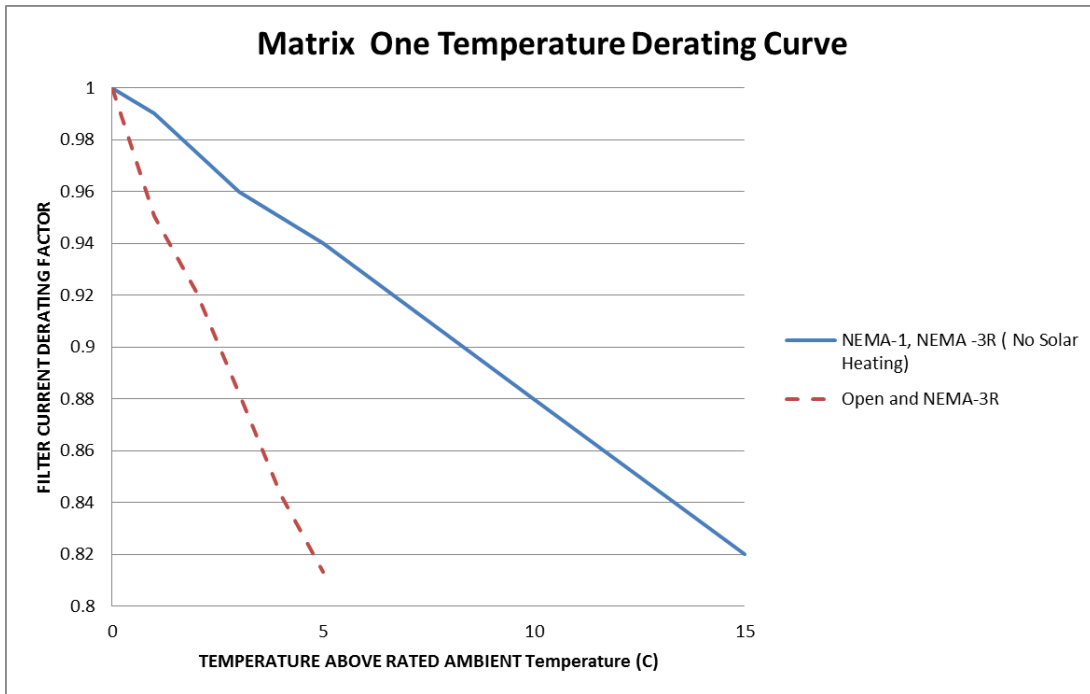

Figure 3-5: Temperature Derating
- Temperature:** See Table 3-1: Performance Specifications (p5) for operating temperature information and Figure 3-5: Temperature Derating (p10) for derating information.